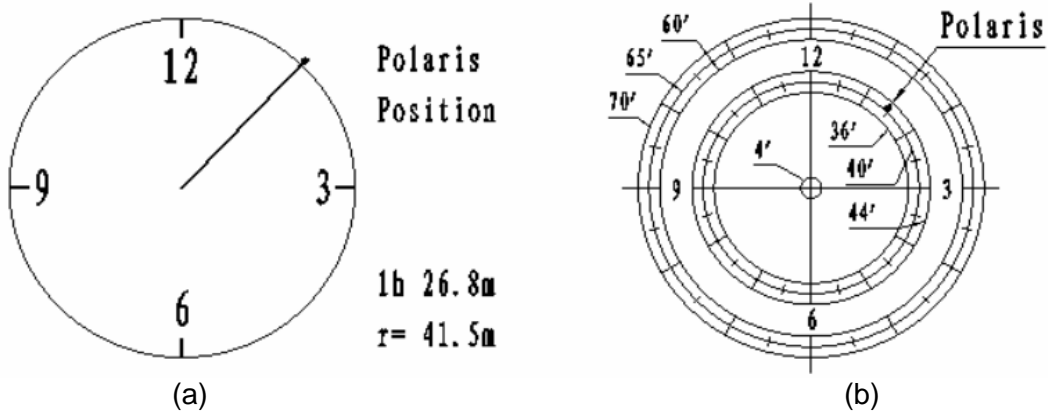

Figure 12. Place the Polaris at the position as shown on hand controller
6. Make sure that the time and site information of the hand controller is correct. Press the **MENU** button, then select **“Align”** and **“Pole Star Position”** to display the current Polaris position. For example, on May 30, 2010, 20:00:00 in Boston, United States (Lat N42°30'32" and Long W71°08'50", 300 min behind UT, DST set to Y), the Polaris Position is 1hr 26.8m and  $r = 41.5m$ , as shown in Figure 12 (a).
7. Adjust the mount in altitude (latitude) and azimuth (heading) direction to place Polaris in the same position on the Polar Scope Dial as indicated on the HC LCD. In this case, the Polaris will be located at a radius of 41.5' and an angle of 1 hour 26.8 minute, as shown in Figure 12 (b).